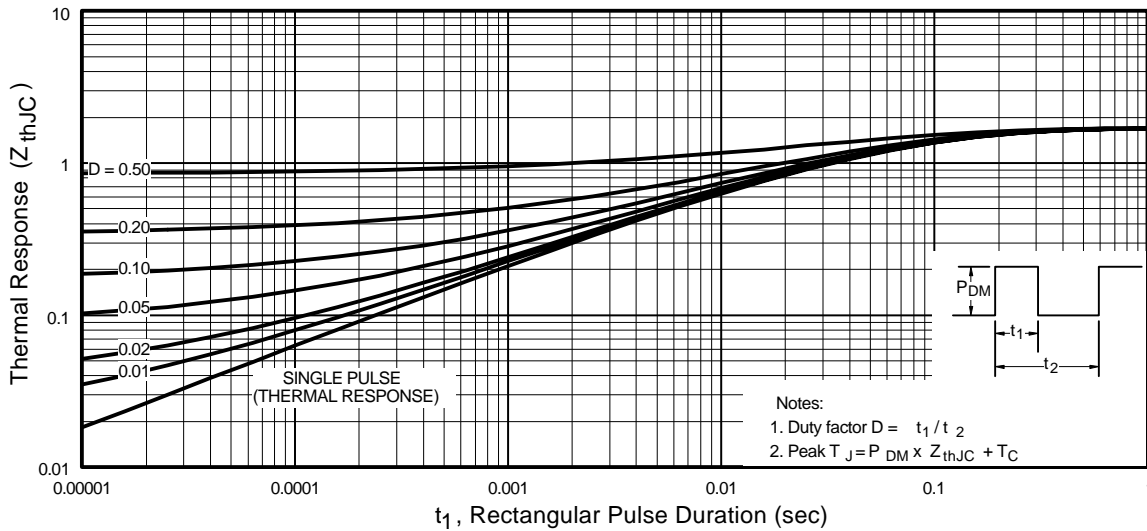

Fig 11. Maximum Effective Transient Thermal Impedance, Junction-to-Case
- ① Repetitive rating; pulse width limited by max. junction temperature. (See fig. 11)
- ② Starting $T_J = 25^\circ\text{C}$, $L = 18\text{mH}$